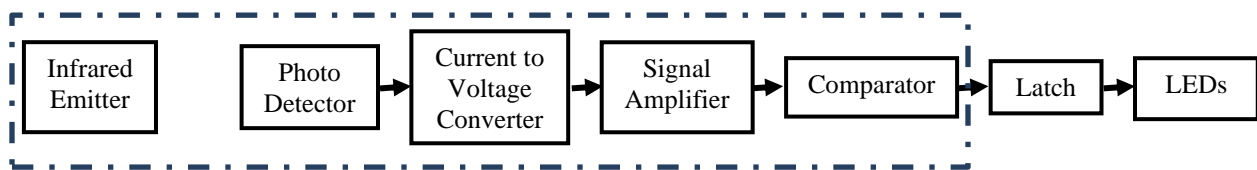
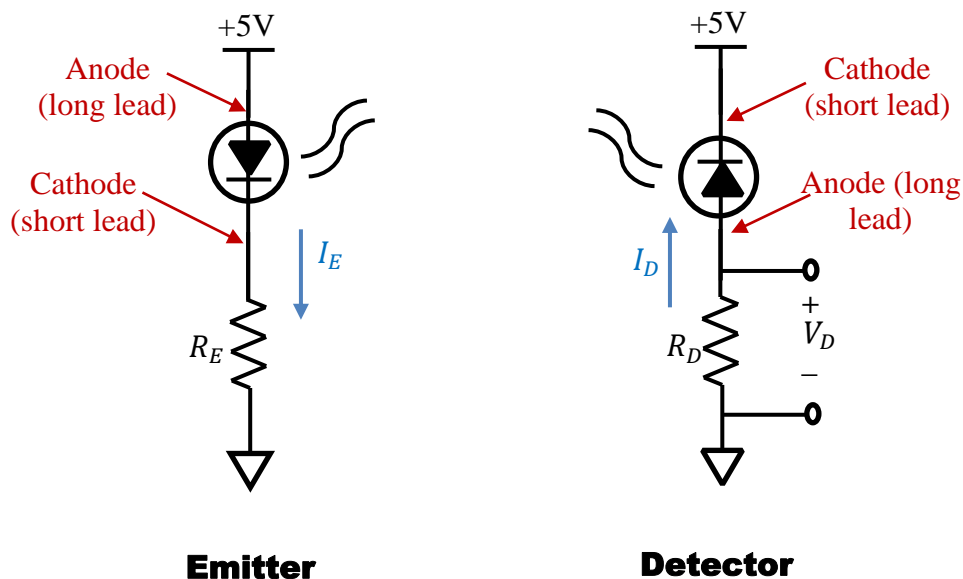
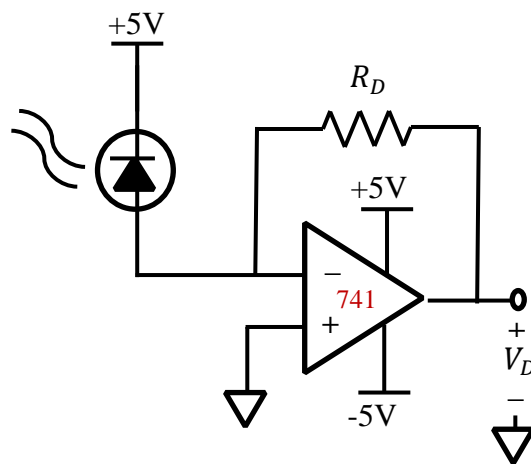

Figure 4.1 – Block Diagram of Alarm Circuit
Figure 4.10 – Emitter and Detector Circuit
Figure 4.12 – An Op-amp based detector circuit.
Theory -The block diagram of the system is shown in Figure 4.1. The stages to be built and tested this week are enclosed in the dashed box. An IR emitter is employed to send a (non-visible) light beam to a photo detector. The photo detector current induced by the light beam depends on the strength of the beam. The first stage in your design will be to build a circuit to convert the current produced by the photo detector to a voltage. We will investigate a few different configurations for achieving this. Since the output of this first stage may be very small, you will design and build an op-amp based amplifier to bring the signal strength up to a usable level. After the voltage is amplified, it will be sent into a comparator which basically decides whether the light beam is present or is being interrupted. In Lab 5, you will build a latch to lock the signal and a system of LEDs to serve as the alarm. In the end, whenever the beam is obstructed, the comparator output will be changed. It will then be locked by a latch circuit and the appropriate LED will light.
First, assemble the emitter using the simple circuit shown in the left of Figure 4.10. The purpose of the resistor is to limit the current so as not to damage the emitter. Since the emitter is rated at a maximum continuous forward current of 50mA, the resistor, R_E , should be at least 100 Ω (assuming a +5V supply voltage, if you use a larger value, the resistor value must be increased accordingly). In order to avoid the danger of burning out your emitter, it might be a good idea to design your emitter circuit (choose resistor values) to produce a current that is safely less than 50mA (maybe something in the 10-30mA range). Measure the voltages across both the resistor
Next assemble the detector circuit as shown on the right in Figure 4.10. The resistor in this circuit is playing a completely different role. As long as there is a sufficient bias voltage across the photo diode, current will flow and the amount of current will be related to the intensity of the IR light incident. The resistor is now converting the current produced by the photo diode to a voltage. In the context of Figure 4.1, the resistor R_D is the “current to voltage converter.” Measure the voltage, V_D , for several different values of R_D . As before, you can infer the current I_D from the measured voltage, V_D . Again, provide a plot of these quantities in your lab report. Make sure to record and note the distance between your emitter and detector that led to these measurements.
Finally, consider the op-amp based detector circuit shown in Figure 4.12. Try implementing this circuit for your detector. In your lab report, explain how this is better/worse than the simple resistor we used previously.
- Provide plots characterizing the operation of the detector circuits (both the one in Figure 4.10(b) and the one in Figure 4.12).